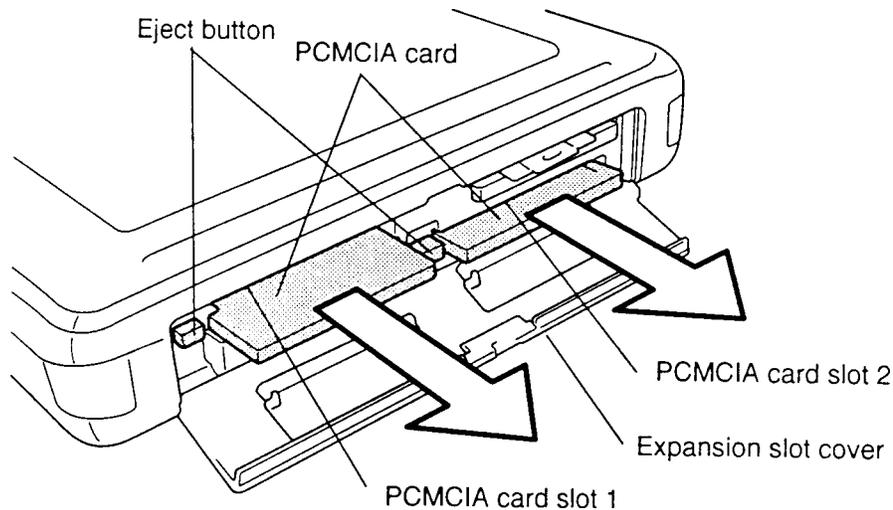

Figure 4-3 Removing the Optional PCMCIA Card
To remove an optional PCMCIA card from the computer, follow the steps below and refer to Figure 4-3.
4. Press the **eject button** of the optional PCMCIA card slot 1 and the optional PCMCIA card will pop partially out (Figure 4-3).
5. Grasp the **card** and pull it out of the computer (Figure 4-3).
6. Press the **eject button** of the optional PCMCIA card slot 2 and the optional PCMCIA card will pop partially out (Figure 4-3).
7. Grasp the **card** and pull it out of the computer (Figure 4-3).
To install an optional PCMCIA card in the computer, follow the steps below and refer to Figure 4-3.
1. To install a PCMCIA card into PCMCIA card slot 1, carefully insert the card, making sure the card is right side up and the contact surface is inserted first (Figure 4-3).
3. To install a PCMCIA card into PCMCIA card slot 2, carefully insert the card, making sure the card is right side up and the contact surface is inserted first (Figure 4-3).